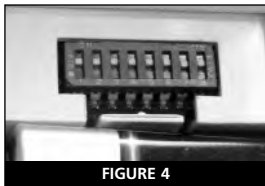

FIGURE 4
2. Find the 8-position dipswitch located on the back of each device. For this model, the dipswitch is located on the back of the device (see figure 4).